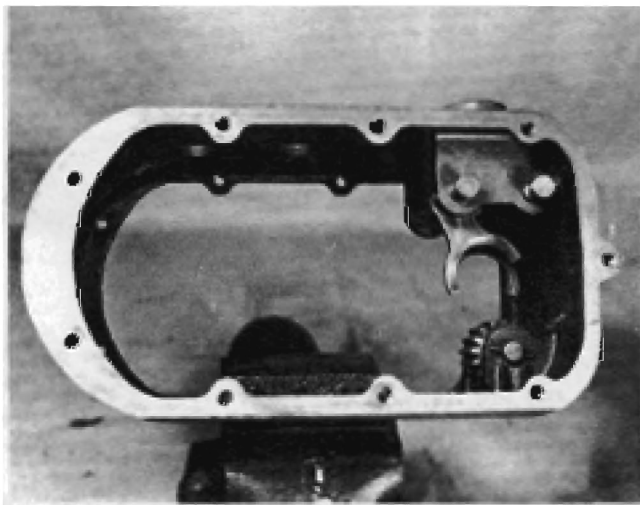

FIGURE 9
1. Install the reverse idler gear in position so that the chamfered end of the gear faces the left side of the case. This will position the gear with the straight edge toward the right side of the case, as shown in Figure 9. Install the reverse idler pin and secure with a $\frac{3}{16}$ " roll pin.